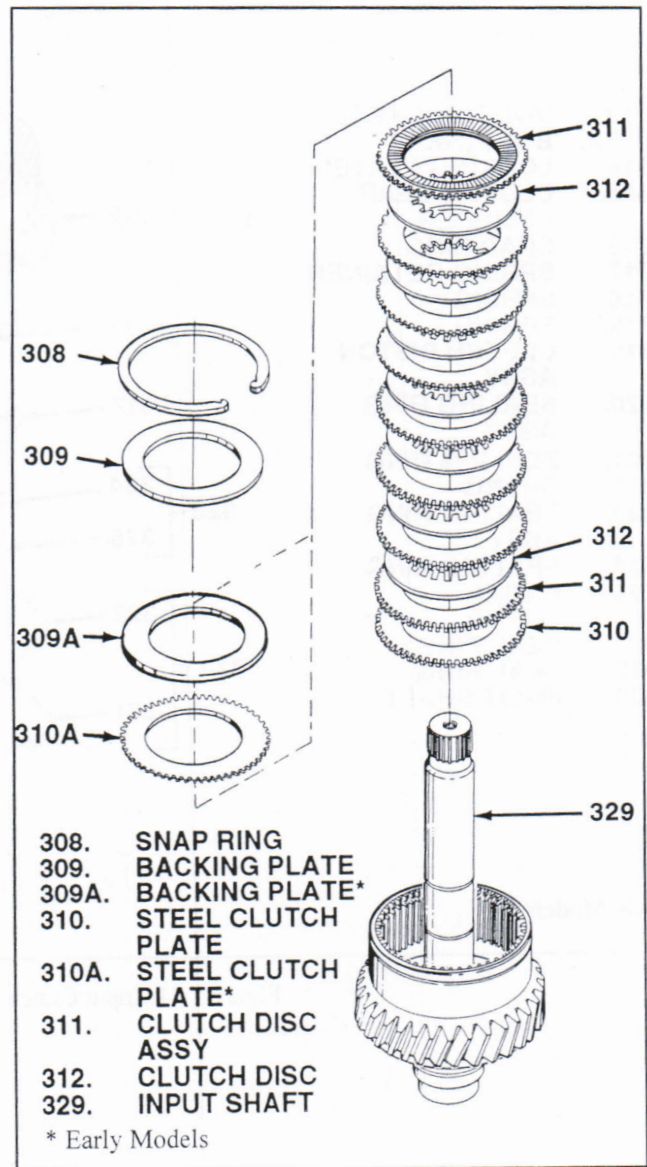

Figure 3-10. Input Clutch Group
**3-18 REMOVAL OF CLUTCH GROUP.** Support input shaft assembly with splined end up and proceed as follows (see figure 3-10):
1. Remove snap ring (308) and backing plate (309), or backing plate (309A) and one clutch plate (310A).
2. Alternately remove eight clutch disc assemblies (311) and seven clutch discs (312).
3. Remove remaining clutch plate (310).